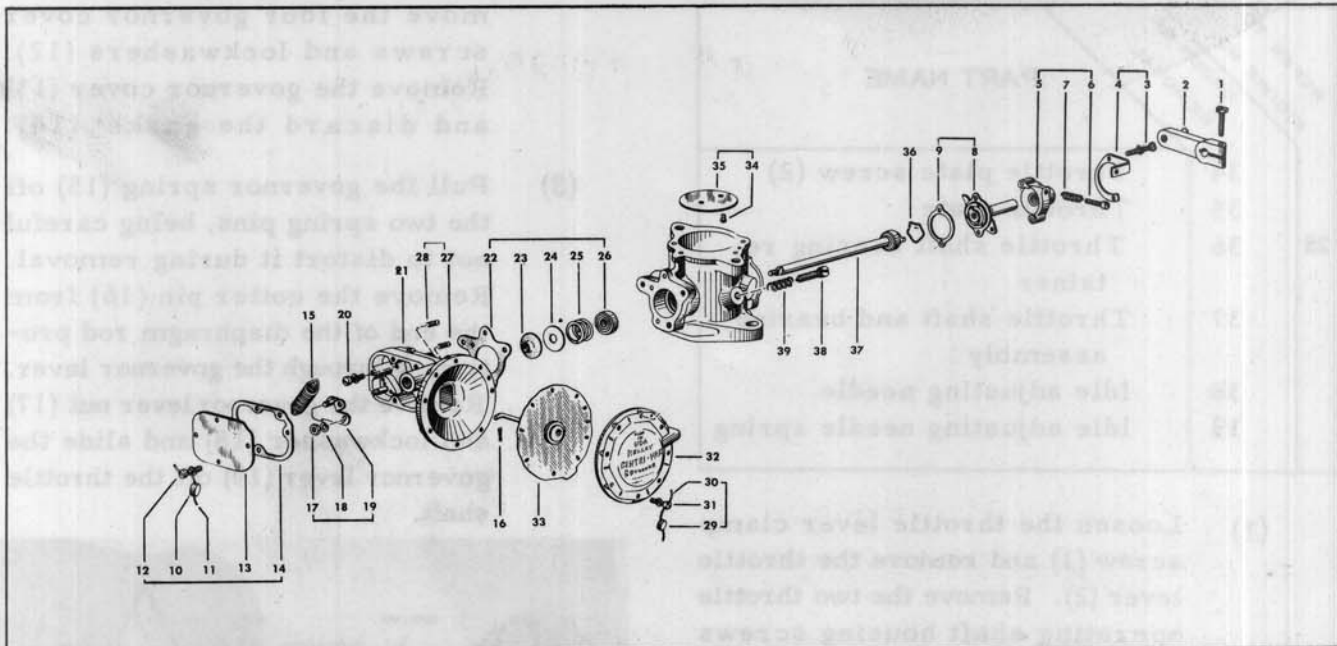

FIGURE 23 – DISASSEMBLY GOVERNOR & THROTTLE BODY T-847HGC
i. Disassembly - Throttle Body and Governor Assembly - Figure 23.